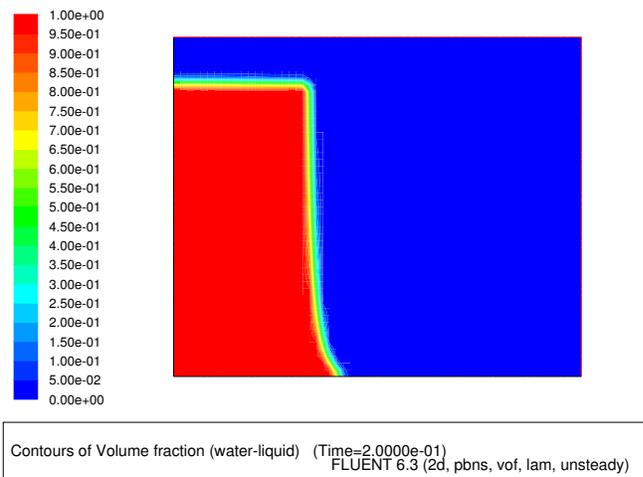

Figure 4: Contours of Water Volume Fraction after 20 Time Steps
2. Display filled contours of volume fraction of water-liquid after 20 time steps (Figure 4).